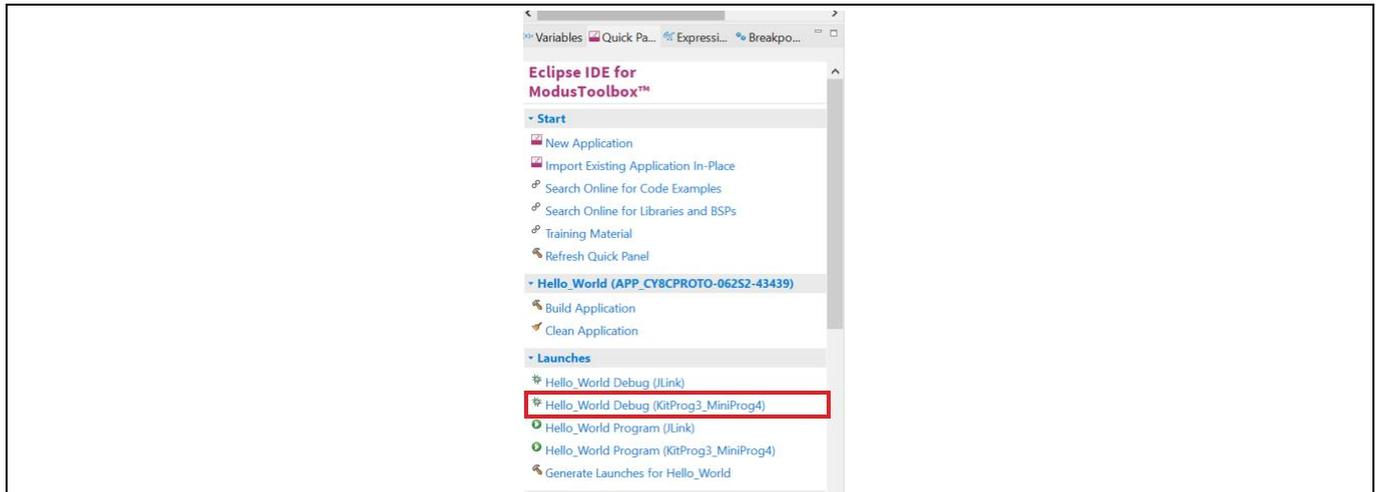

Figure 8 Debugging in ModusToolbox™
- ModusToolbox™ has an integrated debugger. To debug a PSoC™ 6 MCU application, in the Project Explorer, select **<App_Name>** project. In the Quick Panel, scroll to the **Launches** section and click the **<App_Name> Debug (KitProg3_Miniprogram4)** configuration as shown in **Figure 8**. For a detailed explanation on how to debug using ModusToolbox™, see section 5 of **ModusToolbox™ user guide**.